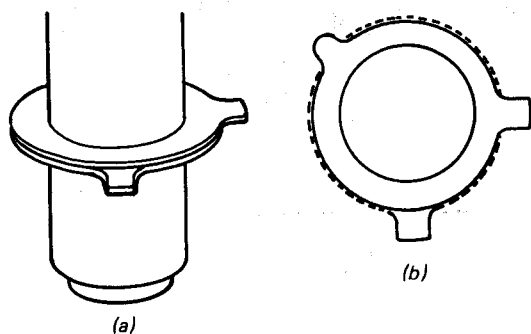
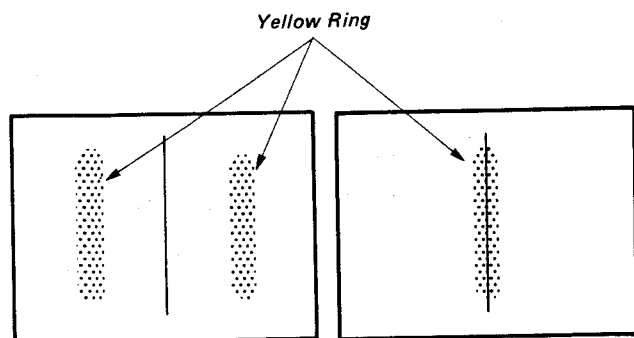

Fig. 1
Fig. 2
3. After adjusting the fourpoles magnet as shown in Fig. 1, adjust the Blue Focus VR of the focus pack to have the yellow ring similar to Fig. 2.